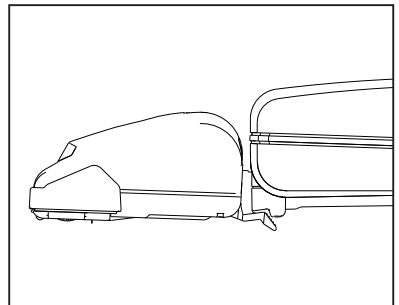

Fig. 2
- Continue to lower the handle to enable the vacuum to lay flat on the floor (Fig. 2).